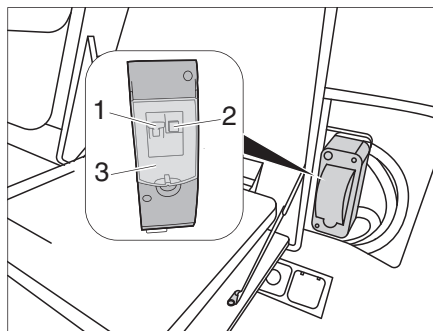

Fig. 40 230 V automatic circuit breaker
The 230 Volt power supply system (external connection) is equipped with an automatic circuit breaker (Fig. 40). This serves in particular as wiring protection. The fuse box is located in the rear to the right of the cooker compartment behind a flap. The automatic circuit breaker is triggered at a short-circuit and at an overload in the supply network.
- Open the cover flap (Fig. 40,3).
The 230 V connection is protected by a two-pole automatic circuit breaker (Fig. 40,1).
- ▷ The residual current circuit breaker (Fig. 40,2) for 230 volts should be tripped once annually so that the mechanism does not "stick" and the tripping time is not extended.